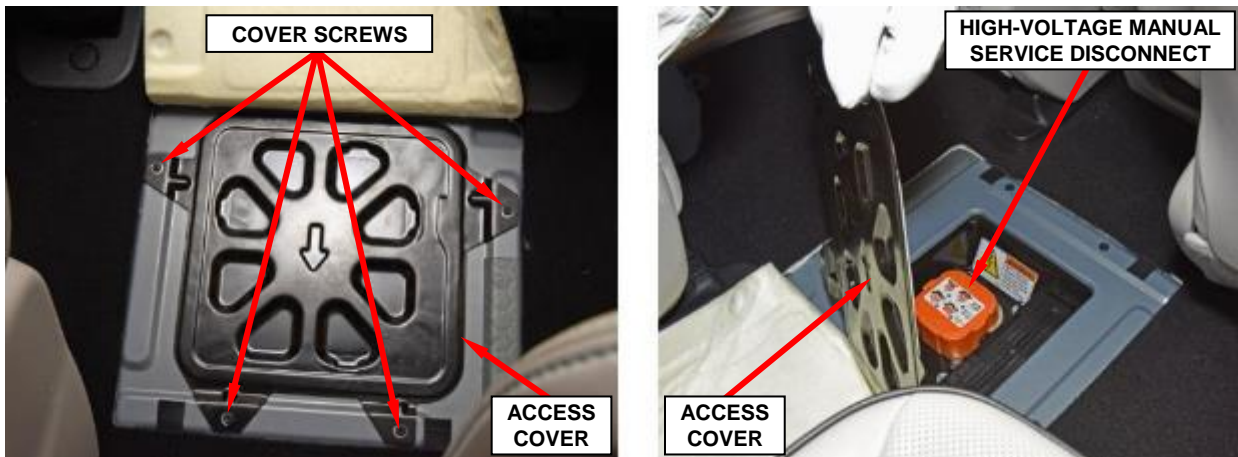

Figure 6 – High-Voltage Manual Service Disconnect Access Cover
- 11. Remove and save the four screws securing the high-voltage manual service disconnect access cover to the floor then remove and save the cover (Figure 6).